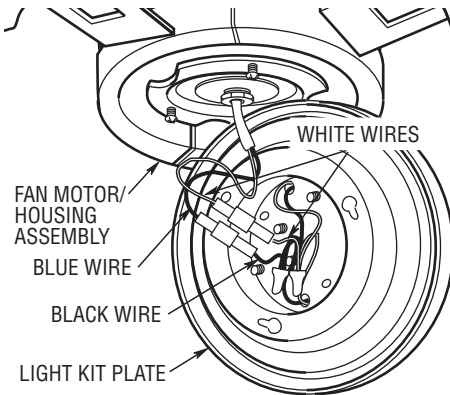

Figure 21
- 1. Detach the light kit plate from the fan motor/housing assembly by removing one screw and loosening the two other screws (located in the keyholes). Rotate the light kit plate counter-clockwise to disengaging the screws in the two key hole slots (Figure 21).